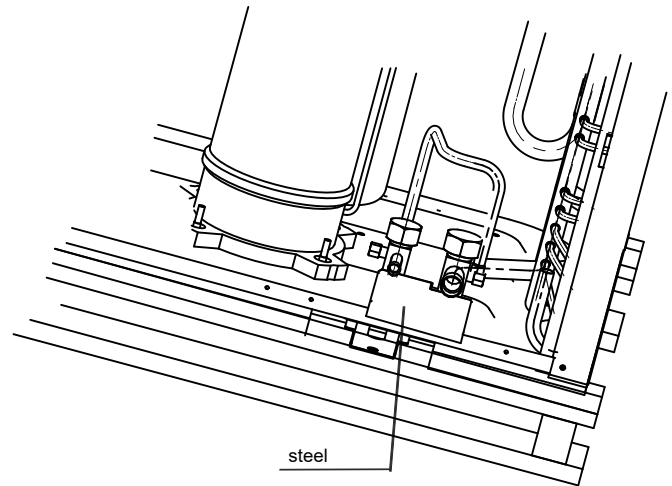

Fig. 4-7
- As shown in Fig.4-7, when brazing the indoor and outdoor connective lines, pad a sheet metal under the valve avoids the flame burning the chassis.